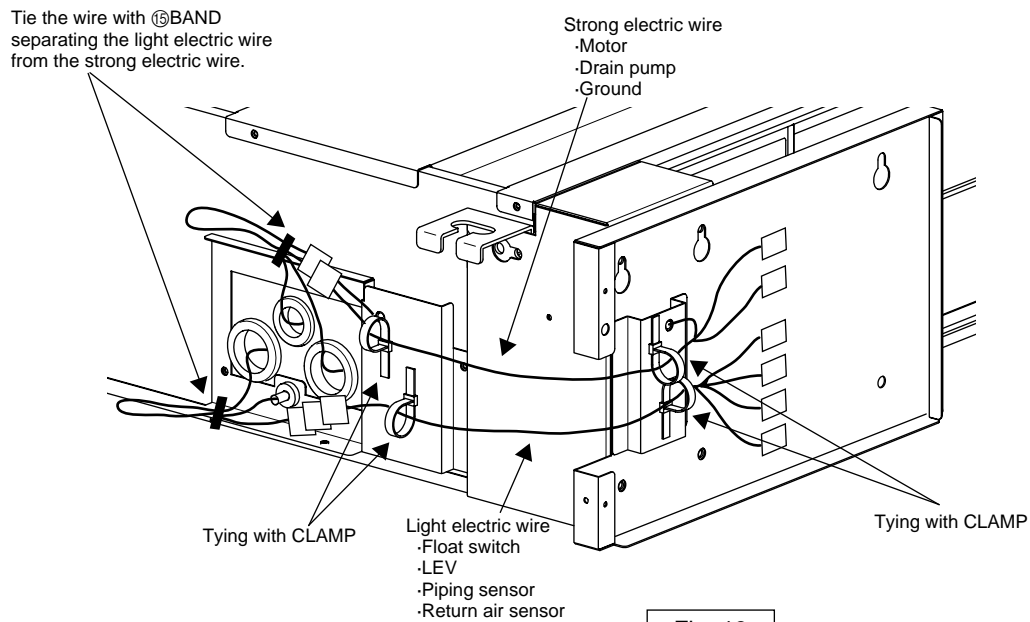

Fig. 13
(3) Tie the each wiring. (Fig. 13)